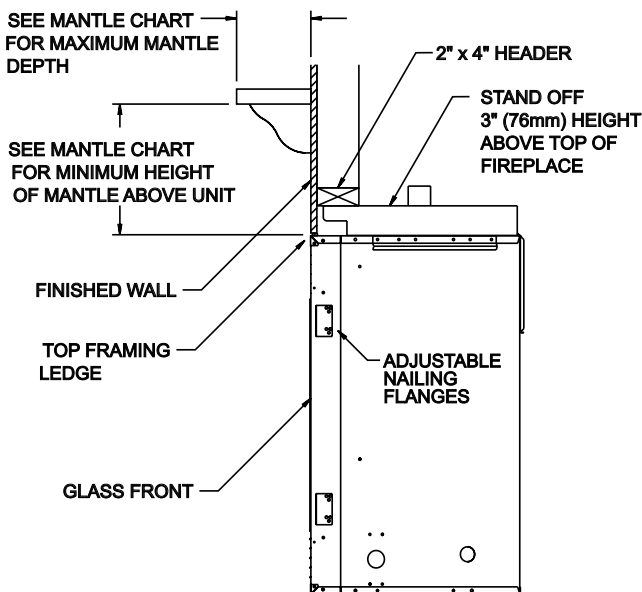

Figure 6
## Clearance to Combustibles (Figure 6)
**Attention:** When DVF is installed in optional full cabinet mantel or corner mantel the (4) four nailing flanges shown in Figure 6 will not be installed on the side of outer casing. The DVF will be attached to the full cabinet mantel or corner mantel with the (2) two nailing flanges located on the top of the outer casing assembly.